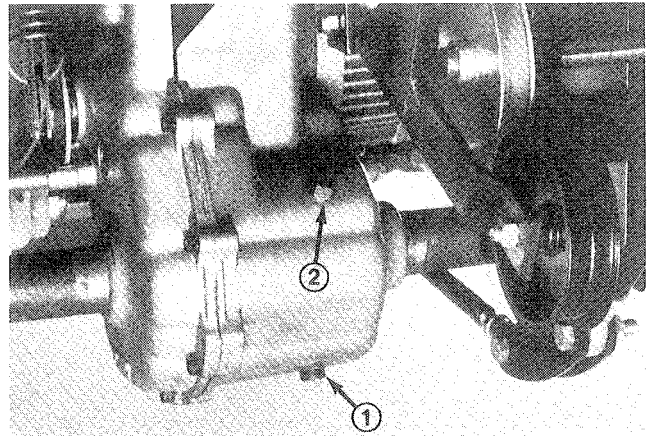

Figure 17
1. Place a drain pan below drain plug on axle. Clean area around drain plug (Fig. 17).